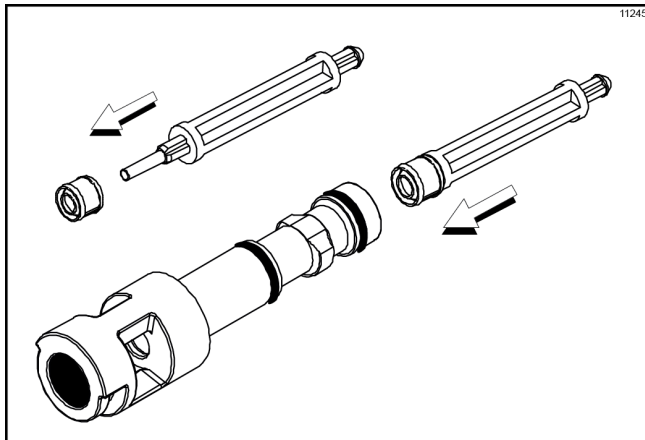

Figure-117
- Insert the spinner shaft seal into the bottom of the draw valve as far as it will go. The spinner shaft seal should fit into the seal groove inside the draw valve cavity. (See Figure-117.)